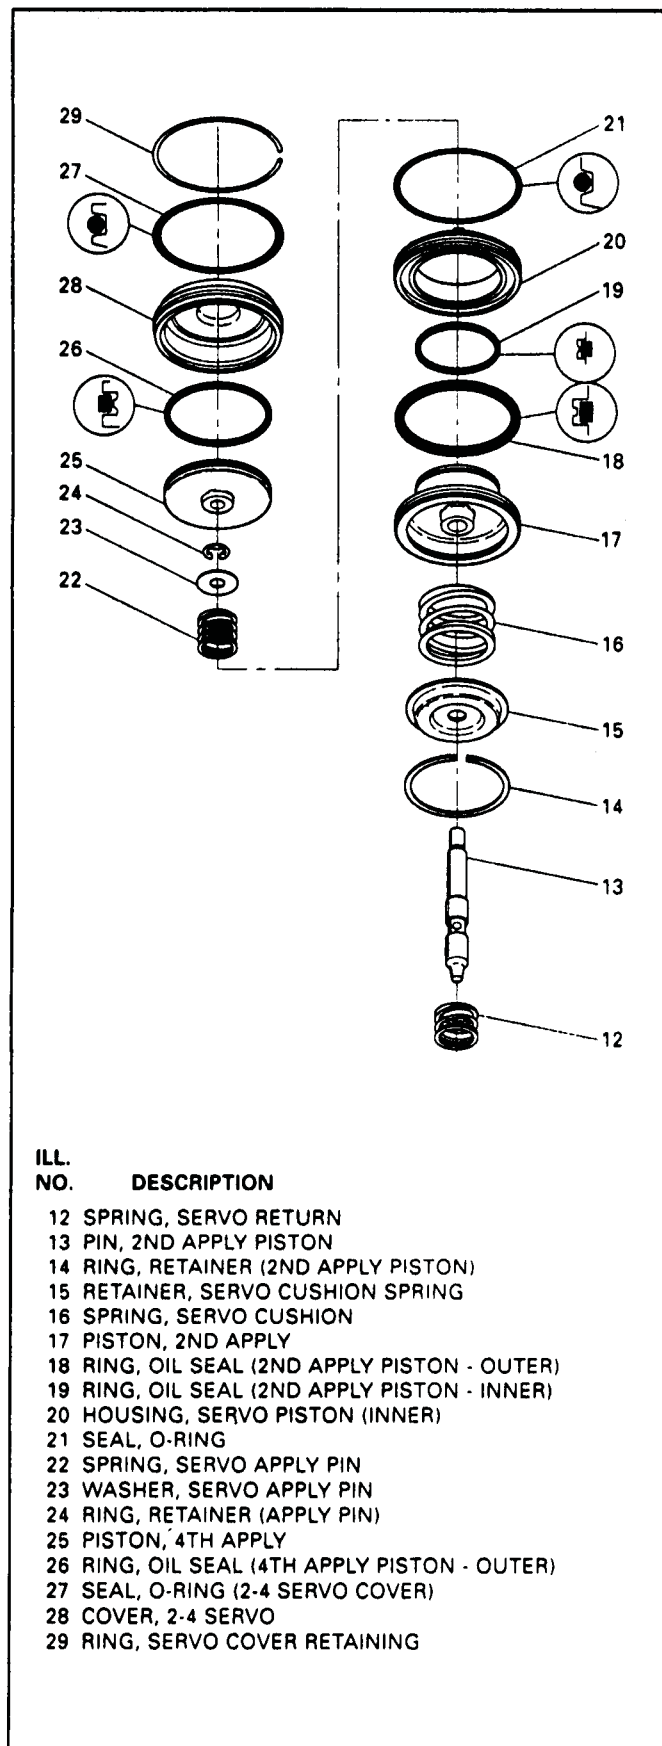

Figure 169
2. Assemble the 2-4 servo assembly as shown in Figure 169.